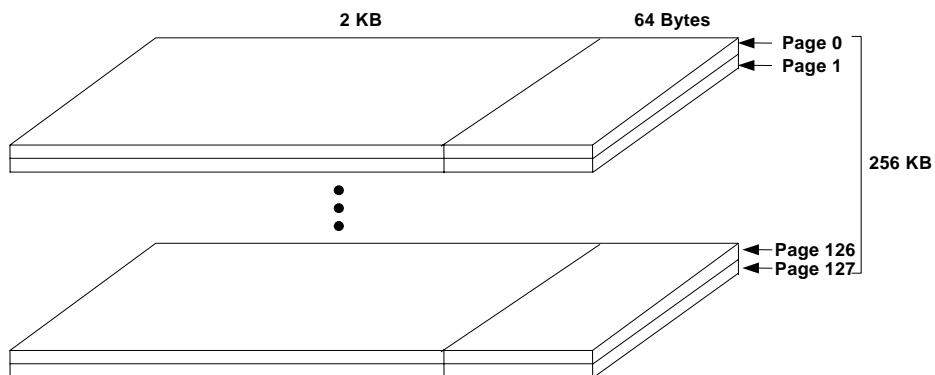

Figure 7: Block Structure
- **Block (Erase Unit)** – Each block contains 128 pages (total of 256KB), as shown in Figure 7. A block is the minimal unit that can be erased, and is sometimes referred to as an erase block.